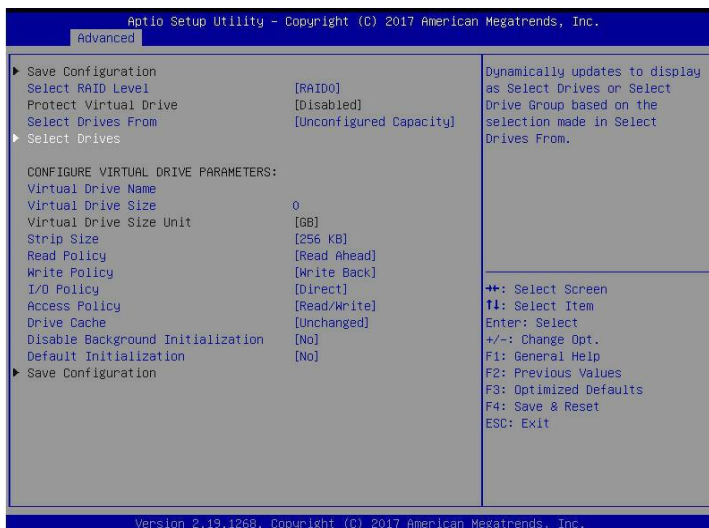

Figure 6-35
- e) Enter the interface shown in Figure 6-35, select Select Drives, and press Enter.
- ✧ Figure 6-35 Select Select Drives